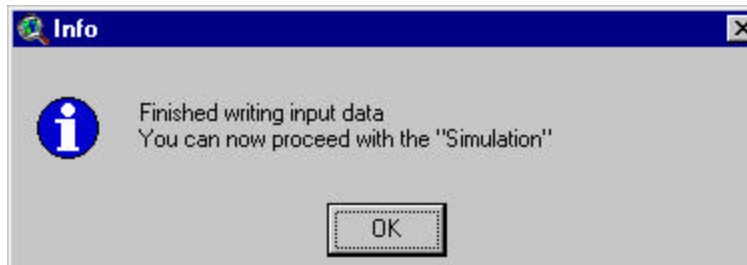

Figure 8.10
- f. When all databases have been built, a message box will be displayed (Figure 8.10).